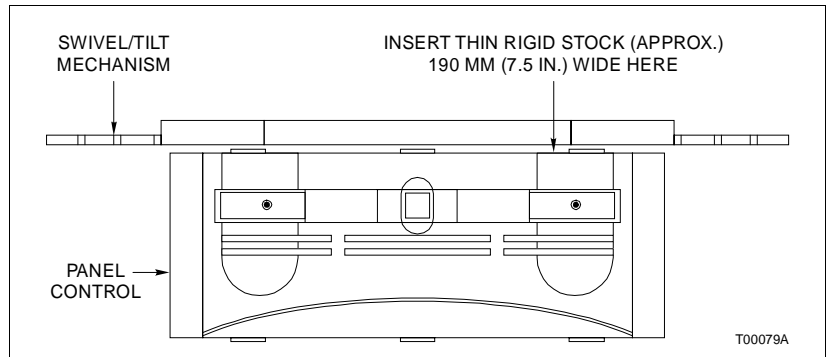

Figure PR63-1. Panel Control Replacement
1. Insert the thin rigid piece of stock into the space above the panel control (Fig. PR63-1).